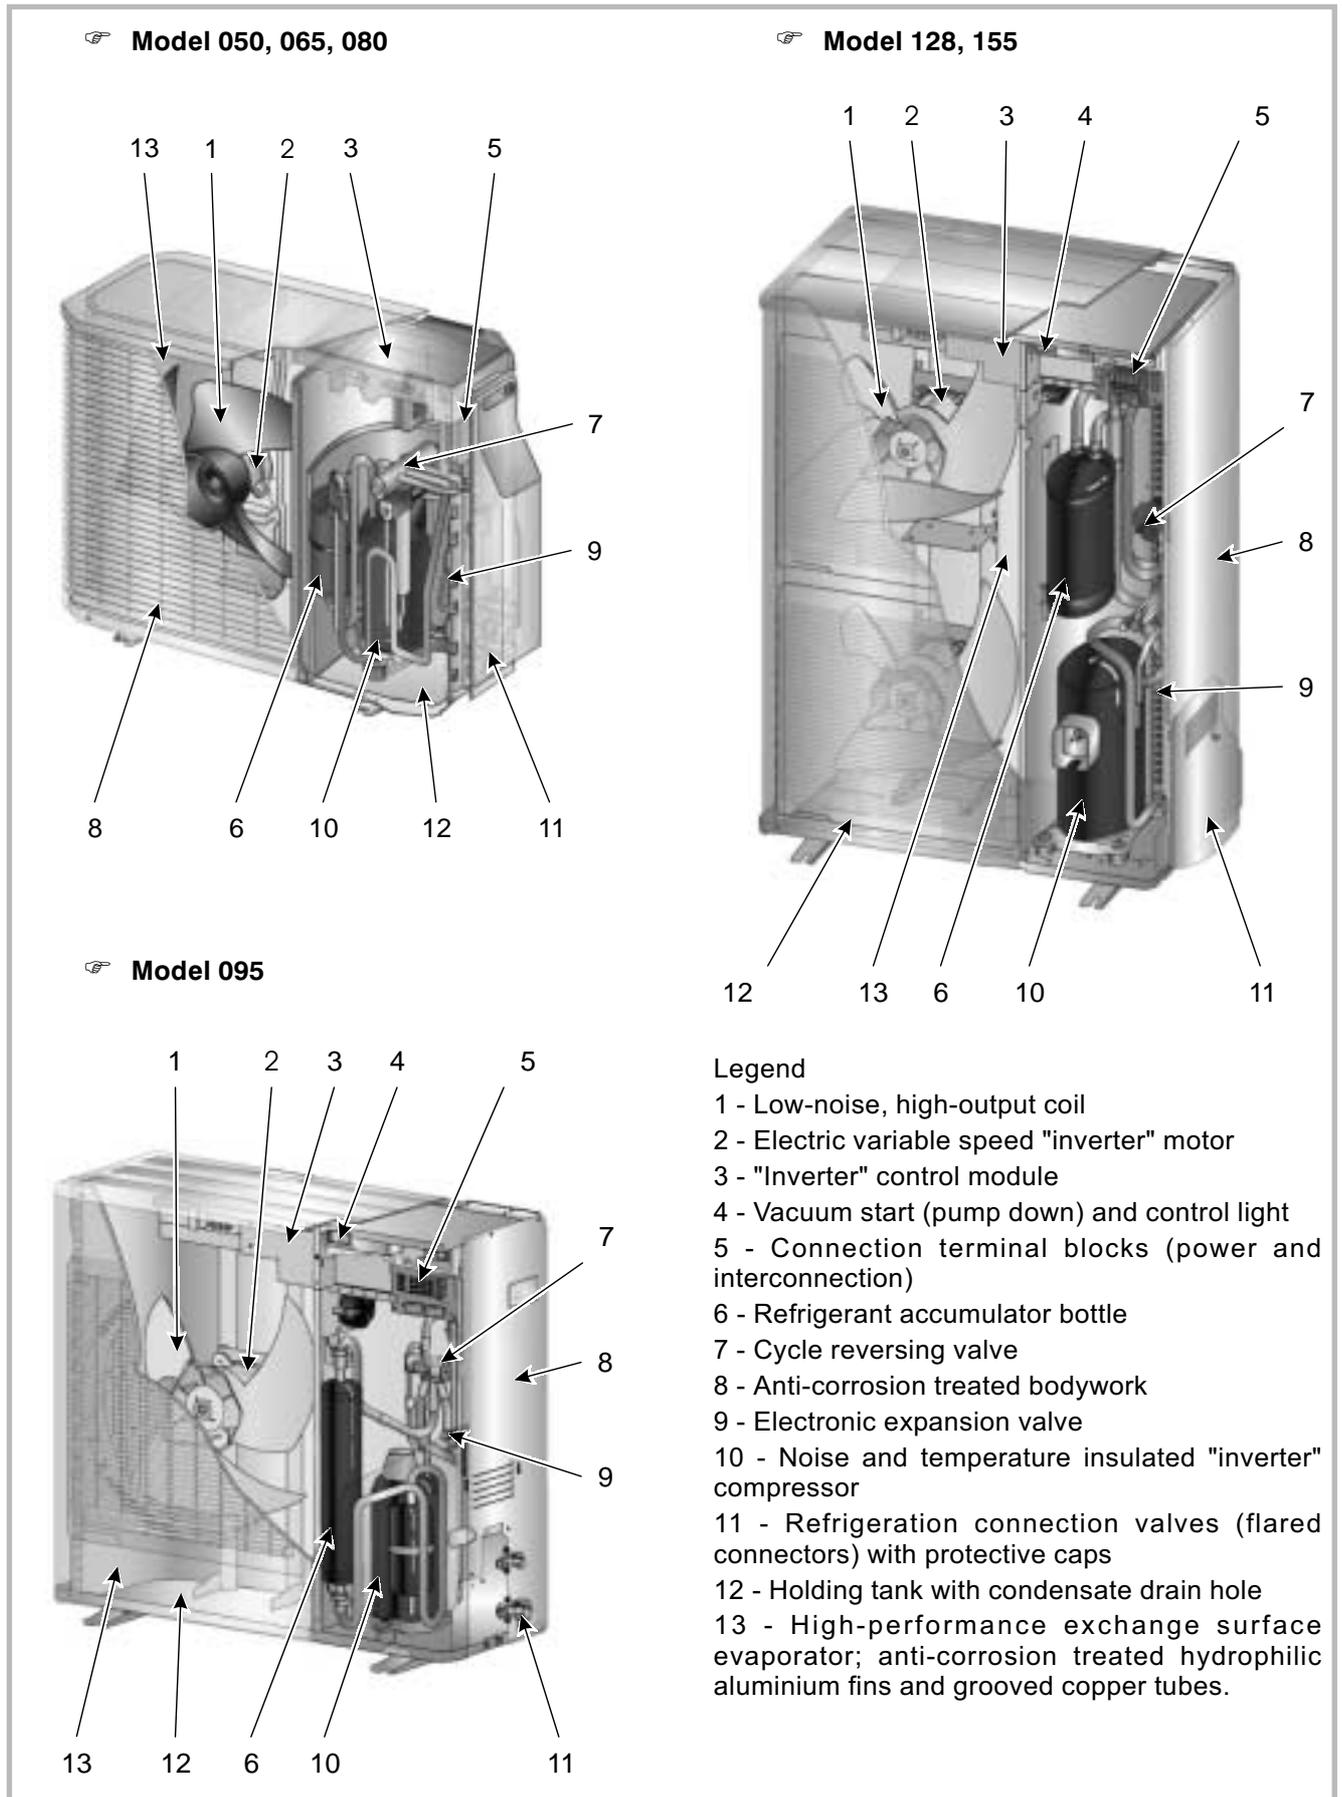

Figure 7 - Outside unit components
- In the evaporator (rep. 13, fig 7, page 11): The energy is taken from the surrounding air and is transmitted to the refrigerant. Because it has a low boiling point, it changes from the liquid state to the vapour state, even in cold weather (down to -15 °C outside temperature).
- In the compressor (rep. 10, fig 7, page 11): The vaporised refrigerant brought to high pressure and takes on more calories.
- In the expansion valve (rep. 9, fig 7, page 11): The liquefied refrigerant is brought back to low pressure and returns to its initial temperature and pressure.